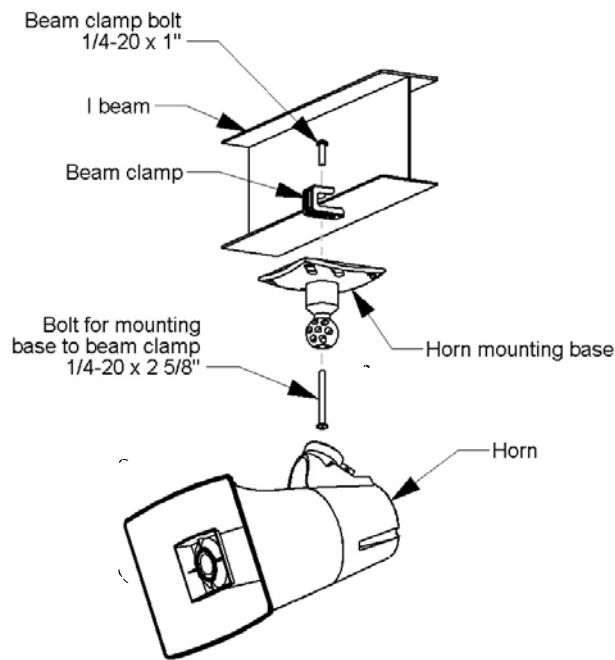

Figure 1. Mounting to a Beam with a "C" Clamp
- A "C" clamp is provided with the horns to allow mounting to a beam. When using the "C" clamp for mounting, remove the signal cable from the ball mount. Reinstall an RJ45 connector on the signal cable after mounting, using the T568B pinout scheme. See Figure 1.